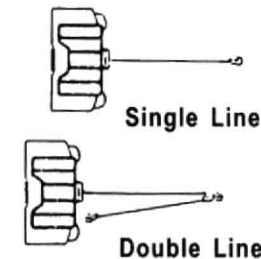

Figure 2
(see Figure 2) approximately doubles capacity of winch
1. Maximum working load capacity is on the wire rope layer closest to the drum. DO NOT OVERLOAD. DO NOT ATTEMPT PROLONGED PULLS AT HEAVY LOADS. Overloads can damage the winch and/or the wire rope and create unsafe operating conditions. FOR LOADS OVER 1,000 POUNDS (454Kg), WE RECOMMEND THE USE OF THE OPTIONAL PULLEY BLOCK TO DOUBLE LINE THE WIRE ROPE (Figure 2). This reduces the load on the winch and the strain on the wire rope by approximately 50%. Attach hook to load bearing part. **The vehicle engine should be running during winch operation.** If considerable winching is performed with the engine off, the battery may be too weak to restart the engine
3. USE A PULLEY BLOCK FOR HEAVY LOADS. To maximize winch and wire rope life, use a pulley block to double line heavier loads (figure 2)